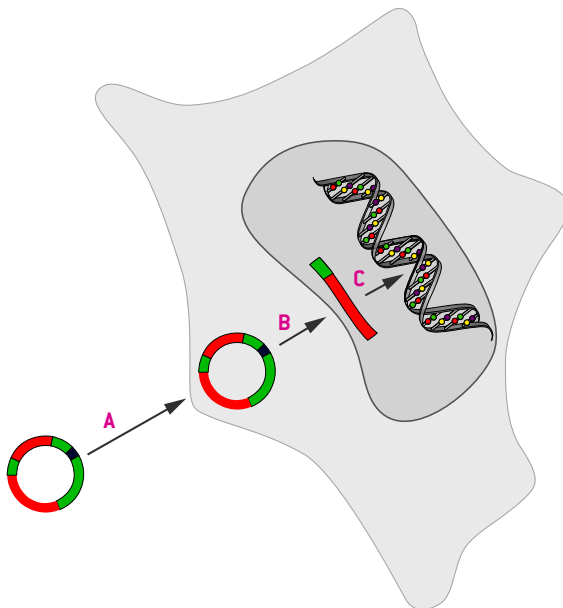

Figure 1. The general path of stable integration.
The selection of an appropriate expression vector is crucial for efficient gene expression. Just take a look at Figure 1. We tried 10 different vectors expressing the same luciferase gene in different backbones and expression cassettes and obtained highly variable expression levels.
Figure 1. Luciferase expression levels depend on vector backbones. We looked at luciferase expression at 4, 24 and 48 hours in THP-1 and HUVEC cells. The amount of DNA was held at equimolar amounts based on plasmid size. For THP-1, the DNA amount ranged from 0.3–0.5 μg per reaction (A). For HUVECs, we used 2.5–4.4 μg of plasmid (B).
Initially, the gene of interest has to be introduced into the cell (A), subsequently into the nucleus (B), and finally, it has to be integrated into chromosomal DNA (C) (Figure 1). Since chromosomal integration into host chromosomes is a rare event, stably-transfected cells usually have to be selected and cultured in various ways. For the selection of stably-transfected cells, a selection marker is co-expressed on either the same construct or on a second, co-transfected vector. A variety of systems for selecting transfected cells exists, including resistance to antibiotics, such as neomycin phosphotransferase, conferring resistance to G418, dihydrofolate reductase (DHFR), or glutamine synthetase [Southern and Berg, 1982]. After gene transfer, cells are cultivated in medium containing the selective agent. Only those cells which have integrated the plasmid containing the drug resistant gene survive.